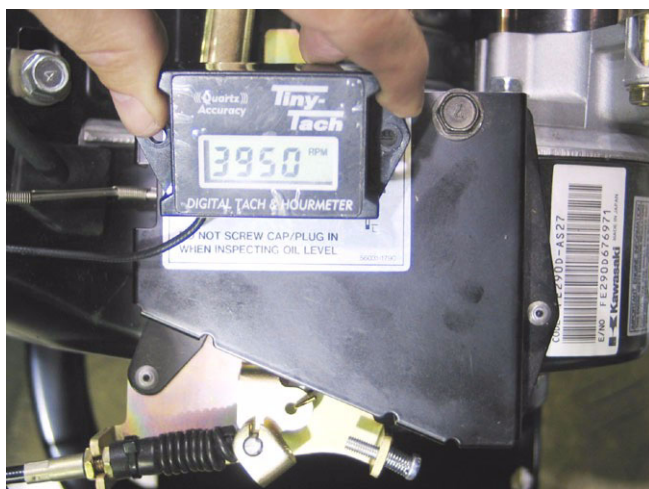

Figure 5.37
- 5.37. Top-no-load engine speed should be 4,000 \pm 50 RPM. Confirm this with a tachometer. See Figure 5.37.